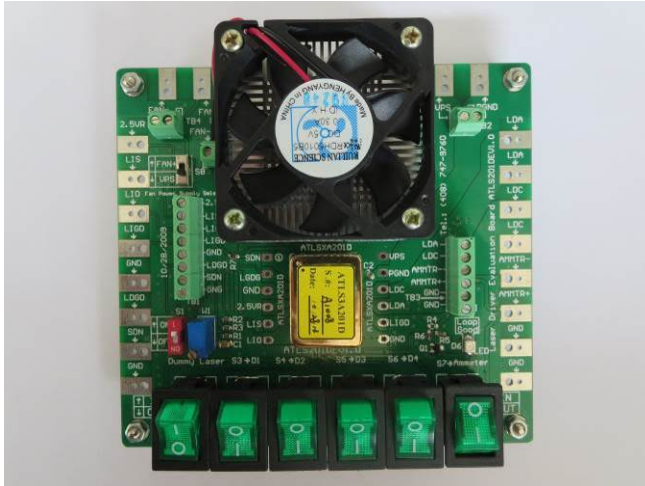

Figure 1. Physical Photo of ATLS201DEV1.0
indicating the working status of the driver, and has numerous connection pads and terminal connectors for making connections with external components and instruments. Its physical photo is shown in Figure 1.
1. Hook up the power supply. There are 2 solder pads in the upper center area on the edge for connecting the power supply. The connection can be done by clipping or soldering on the pads, or locking in 2 wires through the terminal block TB2 by using the screws, see Figure 1. Usually the power supply is set to 5V. If the output maximum voltage is sure to be always at low value, such as 2.5V, a power supply with a voltage of about 1V higher than the maximum output voltage, i.e. 3.5V, can be used. When using a lower voltage power supply, the power consumption of the driver will get smaller, thus, the driver will be working under lower temperature rise.